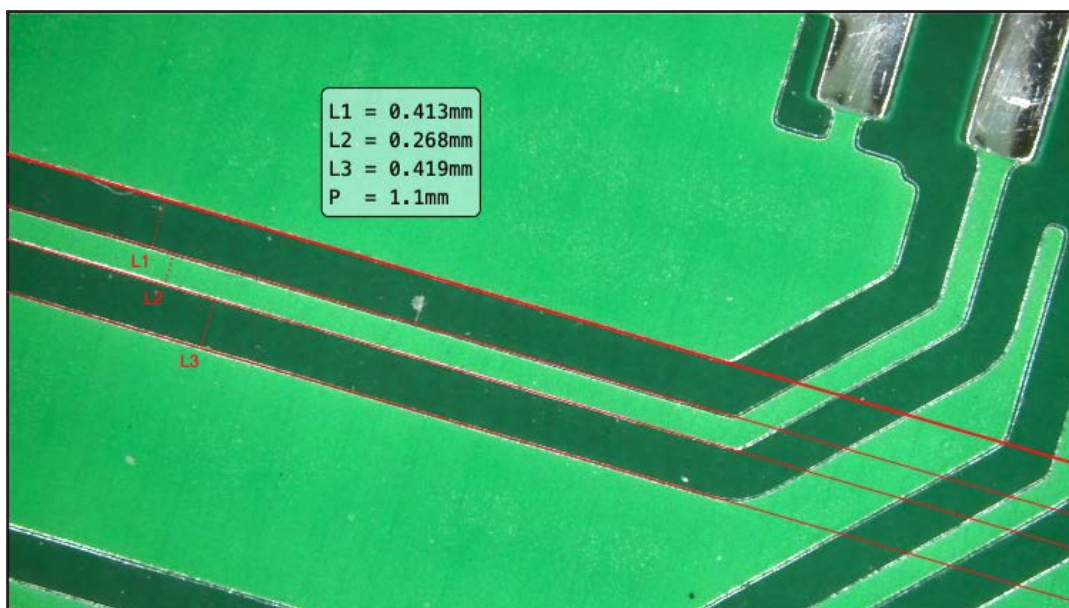

Figure 5-10 Parallel line measurement
(8) Parallel Line: When you want to measure the distance of parallel lines, you can use the tool . As shown in Figure 5-10, first draw the first straight line on the first parallel line to be measured, and then a preview parallel line will be drawn at the mouse pointer. When aligning with the parallel line to be measured, Press the left mouse button to measure the distance between parallel lines, and set in the lower area whether to measure the distance with the first parallel line or to measure continuously, as shown in Figure 5-10. Press the right button to cancel the current measurement action.